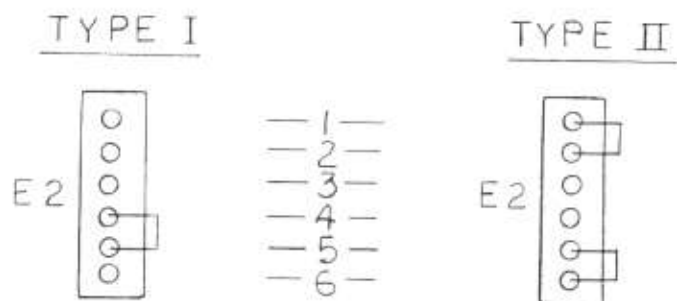

FIGURE 4-5
2. Locate E&M type selection jumpers on the right side upper mounted P.C. Board as you view the unit from the rear (refer to Fig. 4-5). Select the applicable jumper arrangement for either Type I or Type II E&M Signalling of the circuit interface.